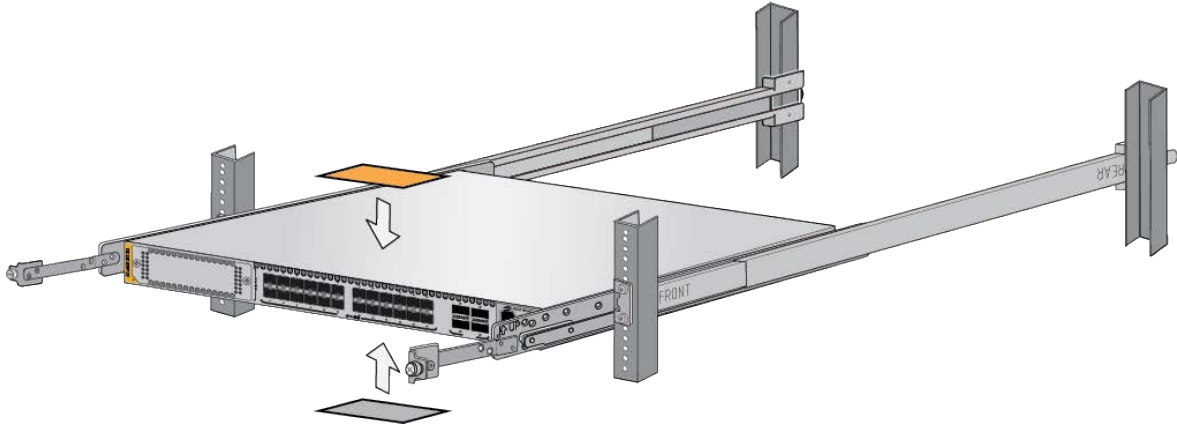

Figure 120. Affixing the Warning Labels
2. Affix the provided warning labels to the top and bottom of the switch, in locations immediately visible when removing the device from the rack. Refer to Figure 120 on page 194.